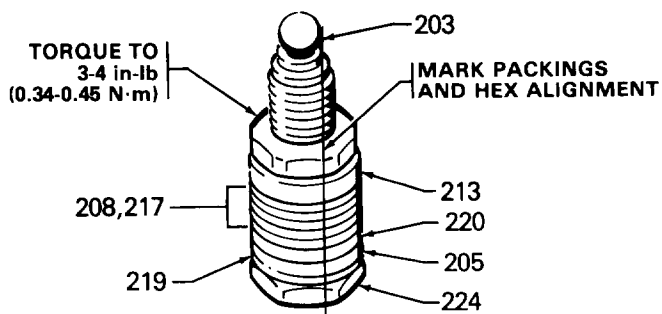

Fig 11
4. Use a pen to make a light mark on the packings where they align with one of the hexes on the nut. See Fig 11.